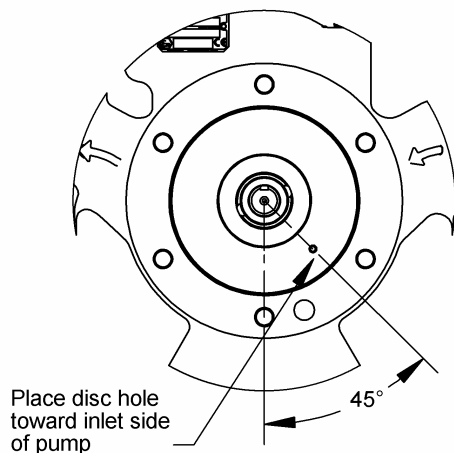

Figure 8. Disc Installation
5. Place the inboard disc (71) against the liner (41) on the inboard side of pump with the seal cavity outward and disc relief hole located as shown in Figure 8.
20. Install disc (71) on the outboard side of the pump with the seal cavity facing outward and the disc relief hole towards the inlet side. Refer to Figure 8.
21. Install seal spacer ring (159) on shaft with outward tangs of spacer ring engaged with drive holes in rotor.
23. Apply a small amount of grease to the shaft and the inner ring of the bearing (24).
26. Install outer race of bearing (24), grease seal (104A) and stationary seat (153A) into outboard head according to steps 8 and 10 above.
27. Install new head O-ring (72) into O-ring groove in outboard head (23).
28. Apply a small amount of grease to the shaft and the inner ring of the bearing (24).
29. Carefully install the outboard head assembly (23) over the shaft. Do not contact the end of the shaft with the polished face of the stationary seat. Center the head on the pump casing (12). Install and uniformly tighten all six head capscrews (21) and torque per Torque Table 1.
30. Turn the pump casing around and remove the inboard head (20) previously installed.